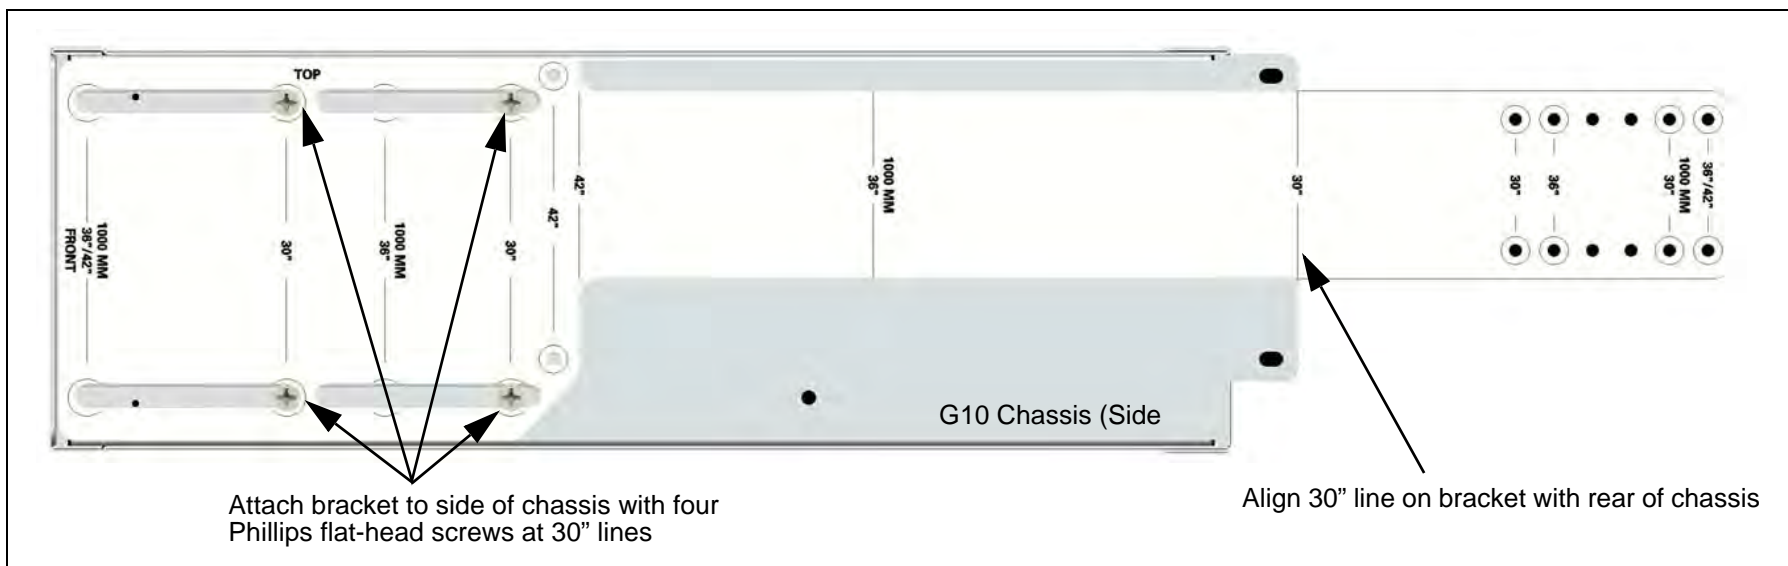
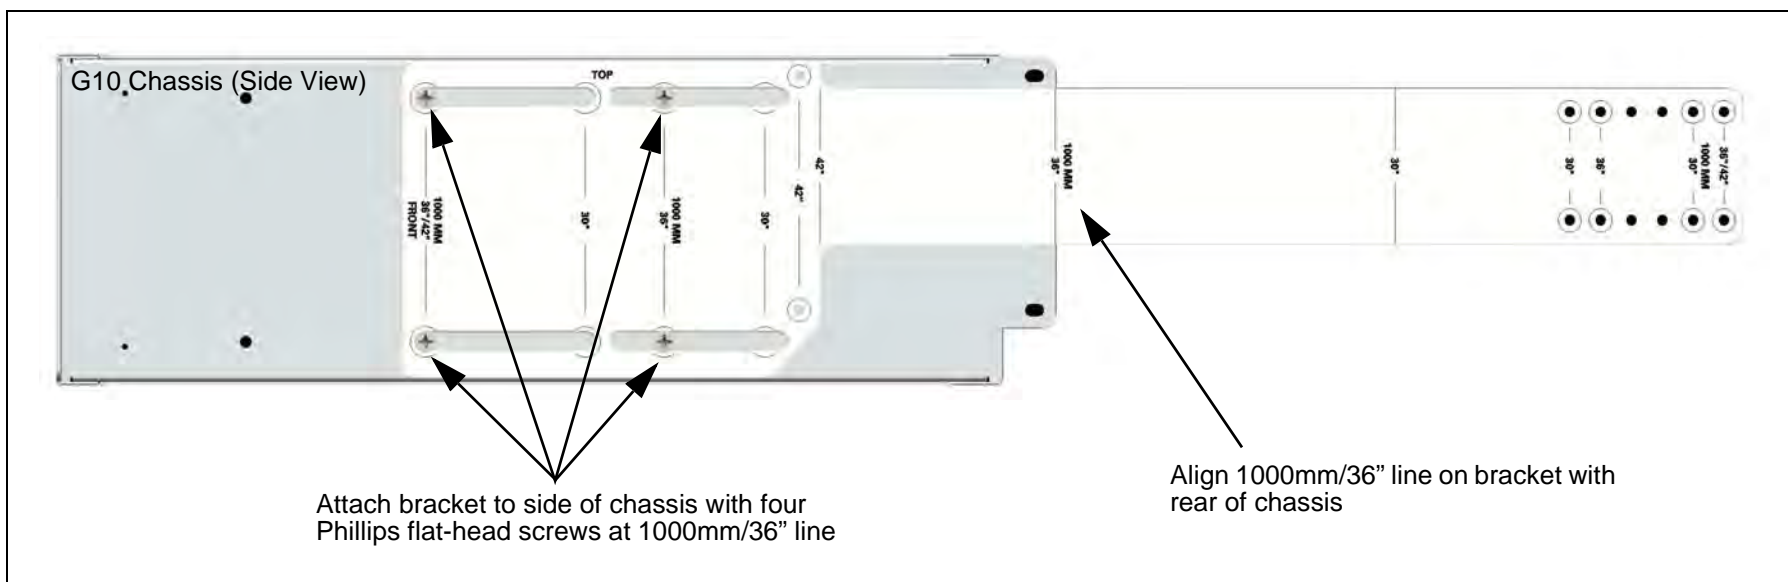
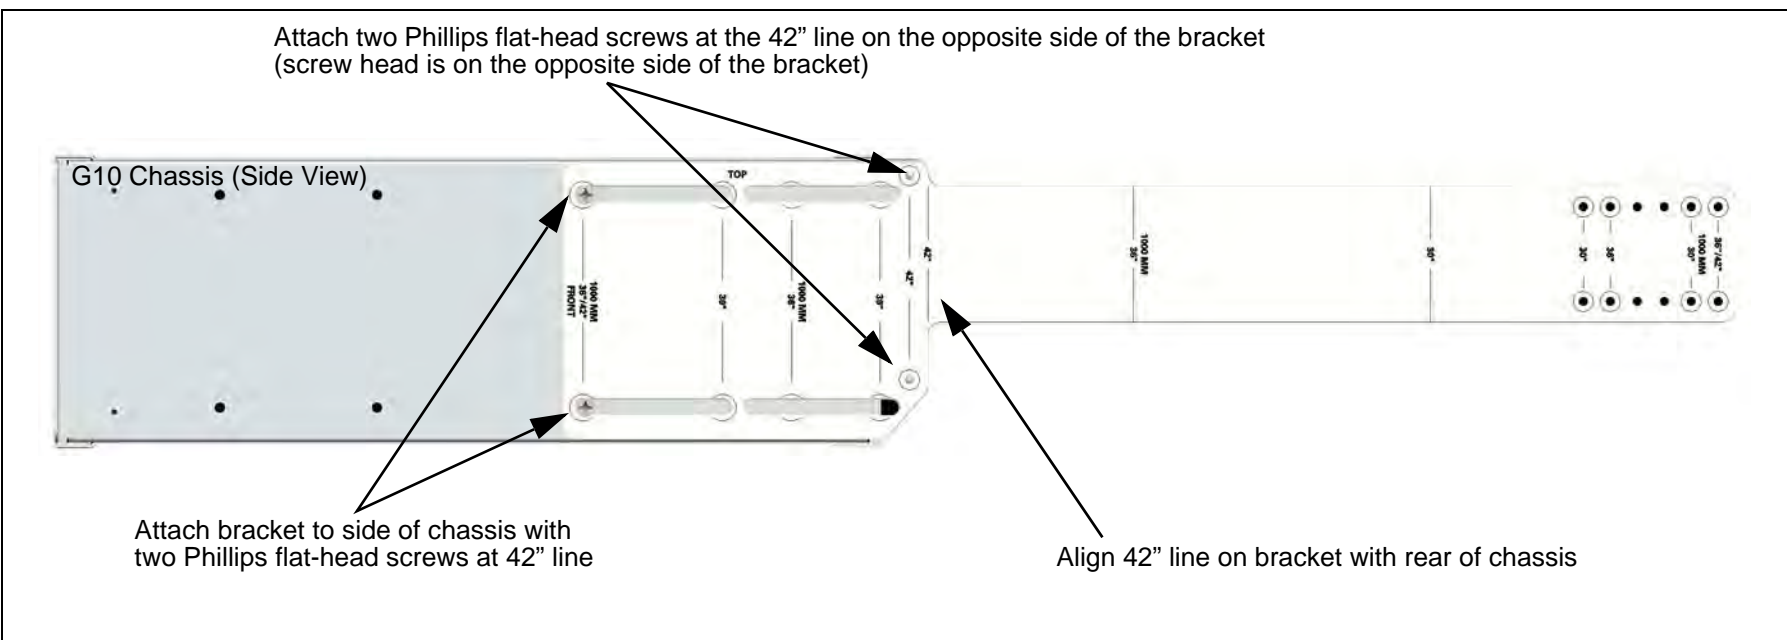

Figure 2.1 - G10 Chassis Install, Four-Post Rack, Front Mount (30-inch Rack)
Figure 2.2 - G10 Chassis Install, Four-Post Rack, Front Mount (36-inch and 1000 mm Racks)
Figure 2.3 - G10 Chassis Install, Four-Post Rack, Front Mount (42-inch Rack)
2.	Align the side brackets and secure them to the sides of the G10 chassis using Phillips flat-head screws. Alignment varies per rack type: <ul style="list-style-type: none">■ 30-inch rack (see Figure 2.1)■ 36-inch rack (see Figure 2.2)■ 1000 mm rack (see Figure 2.2)■ 42-inch rack (see Figure 2.3)